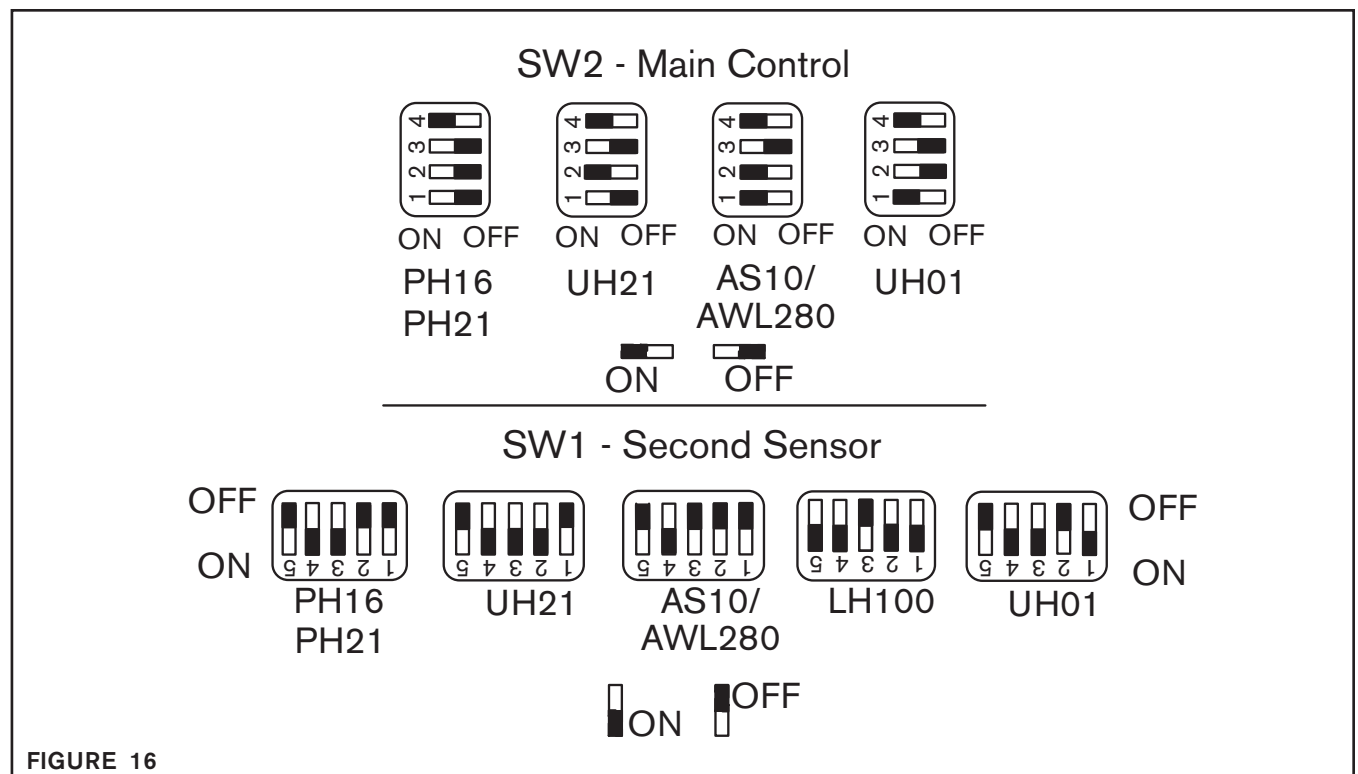

FIGURE 16
1. SW2-1 and SW2-2 indicates the Sensor Type connected at Terminal J8 (See Figure 16).
3. SW2-4 is a Lock-Out for the Setup Key and the Sensor Key; when, it is set to ON these two keys are enabled. If it is set to OFF the Setup Key and the Sensor Key will not respond when pressed (See Figure 16).
4. SW1-1, -2, -3 determine the sensor type connected to J1 on the Second Sensor Board (See Figure 16).
**NOTE:** For EPC (single-sensor systems): the sensor is connected to J8 on the Main Control Board (refer to the Electrical Connections section), and SW2 is used to select the sensor type (See Figure 16).
For CPC (dual-sensor systems): the left sensor is connected to J8 on the Main Control Board (refer to the Electrical Connections section), SW2 is used to select the left sensor type (See Figure 16), the right sensor is connected to J1 on the Second Sensor Board (refer to the Electrical Connections section), and SW1 is used to select the right sensor type (See Figure 16). The same sensor types must be selected with SW1 and SW2 in order to use CPC mode.
For line-following applications: the LH100 must be connected to J1 on the Second Sensor Board (refer to the Electrical Connections section), and SW1 is used to select the sensor type (See Figure 16).